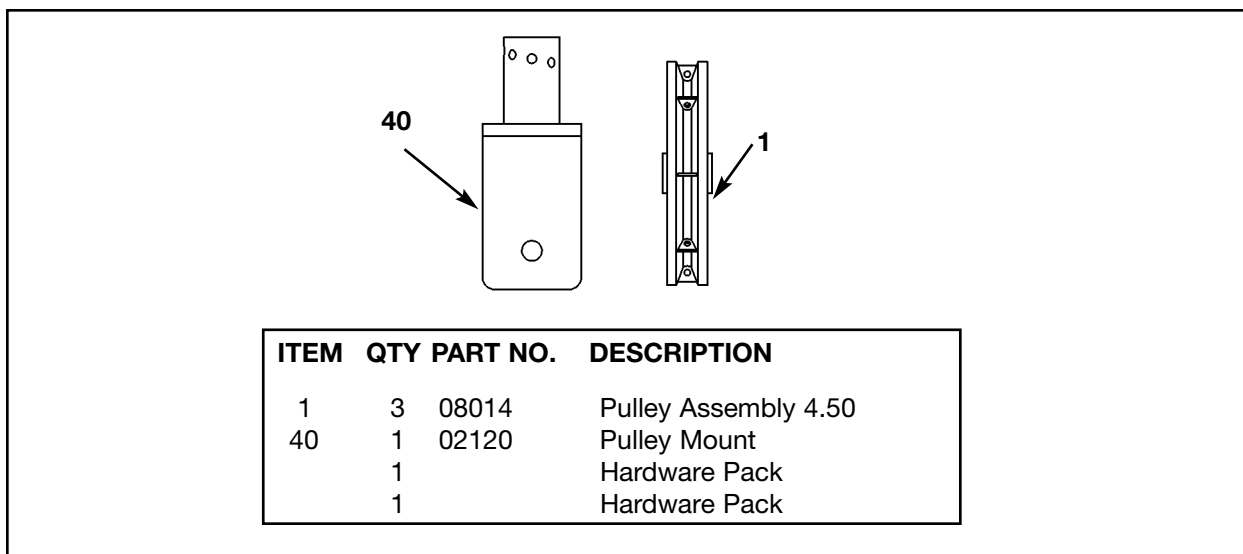

Figure 4
- E.** Verify contents of the carton. See Figure 4.